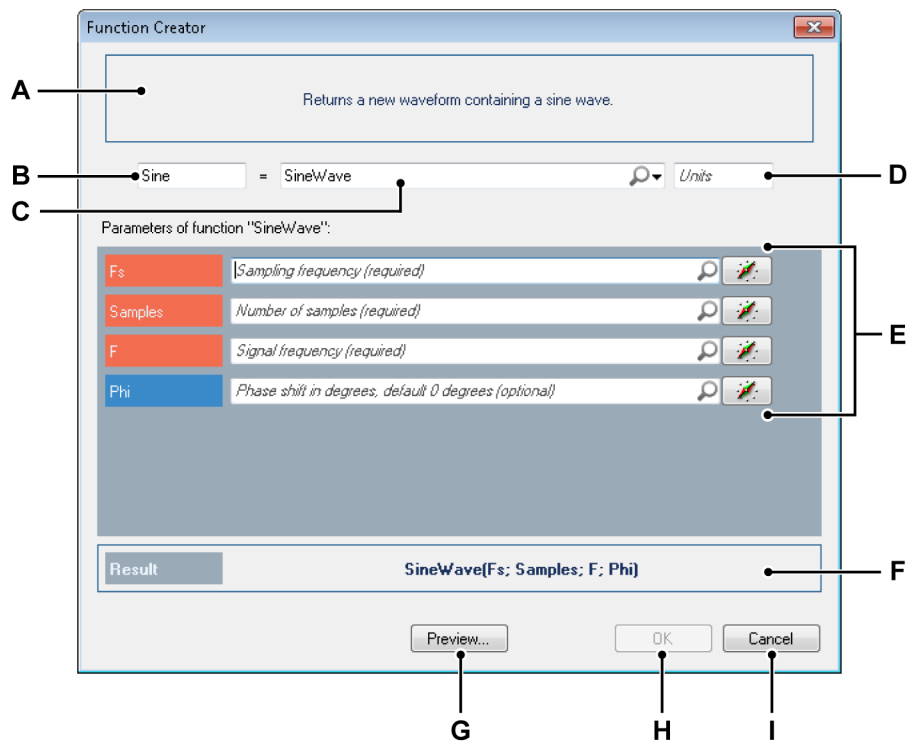

Figure 1.7: Function Creator dialog
- 1** Calls on the function creator (see Figure 1.7 "Function Creator dialog" on page 21)